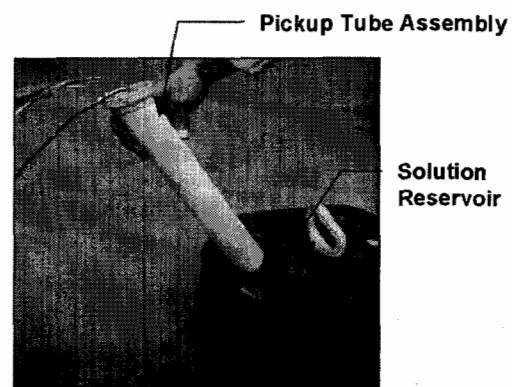

Figure 15: Pickup Tube & Solution Reservoir
Step 1. Pull the pickup tube assembly (see figure 15, page 18) from the current solution reservoir.
Step 2. Purge system with *warm* water by placing the pickup tube (see figure 15 on page 18) into a bucket of water, then follow the purging instructions as described on page 18 until all solution lines are cleaned and filled with water.